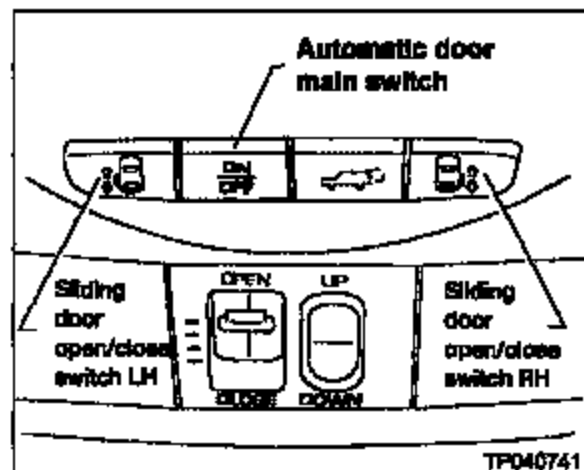

Figure J38
- You should hear three (3) sliding door warning chimes.
54. Turn the Automatic Door Main Switch ON (see Figure J38).